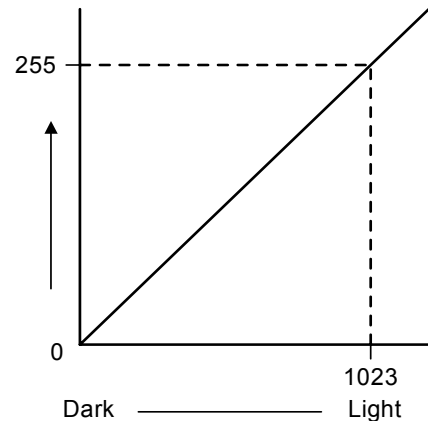
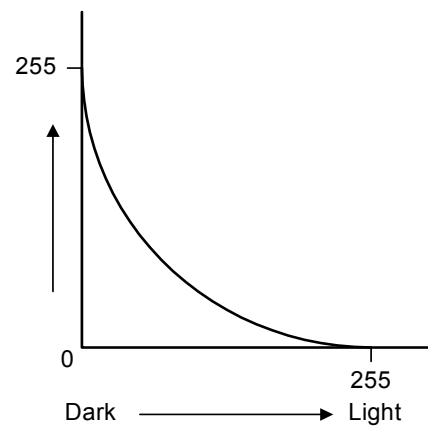

Fig. 1
Fig. 2
The RGB video signals from the CCD are sent to the ASIC1 chip on the BICU board. This signal is proportional to the intensity of light reflected from the original image (Fig. 1). Scanner gamma correction inverts the video signals. The shading circuit converts the signal from 10-bit to 8-bit.
- The ASIC1 chip converts the signal levels as shown in Fig. 2.
Printer Gamma Correction**Fig. 1****Fig. 2**
Ideally, the gamma curves for Yellow, Magenta, Cyan, and Black should be identical, as shown in figure 1. However, slight variations in the electrical components can result in varying gamma curves, as shown in figure 2.